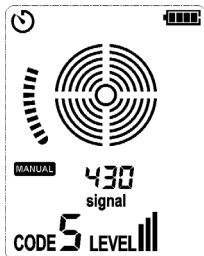

Figure 7.2.3c – Signal Detected
3. Scan all circuit breakers in random sequence. Scan the circuit breakers multiple times to observe the signal strength displayed on the LCD, until a circuit breaker panel with the strongest signal is identified. During scanning, the sensitivity needs to be adjusted repeatedly, to prevent the accuracy from being affected by high strength signals, as shown in **Figure 7.2.3c**.